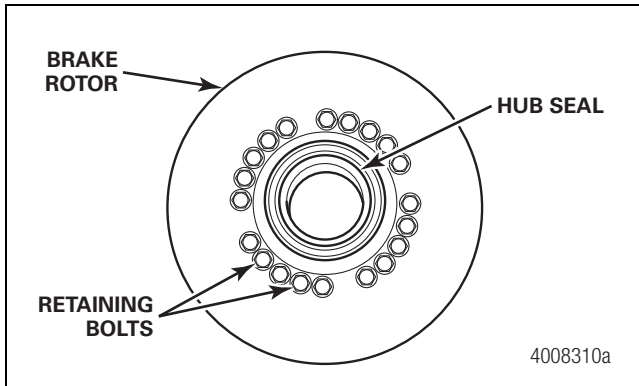

Figure 7.6
1. Remove the rotor mounting bolts and remove the rotor from the hub. Figure 7.6.